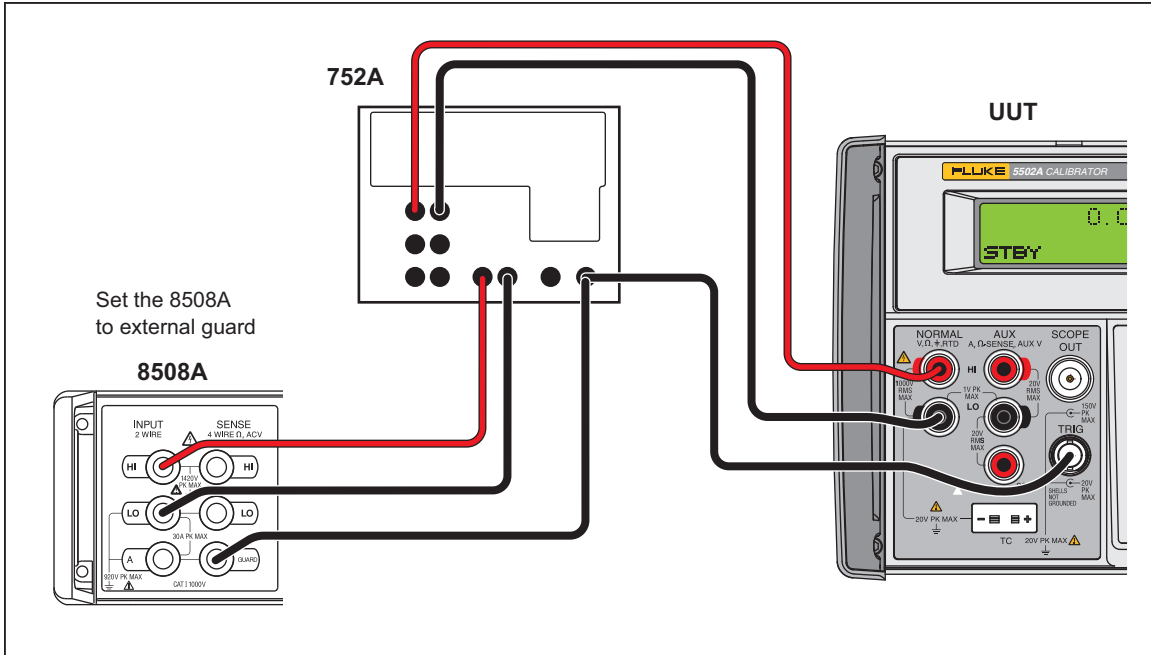

Figure 3-1. DC Volts Calibration Connections up to 30 V
6. Connect the test equipment as shown in Figure 3-1.
9. Connect the reference multimeter and Reference Divider to the UUT as shown in Figure 3-1.